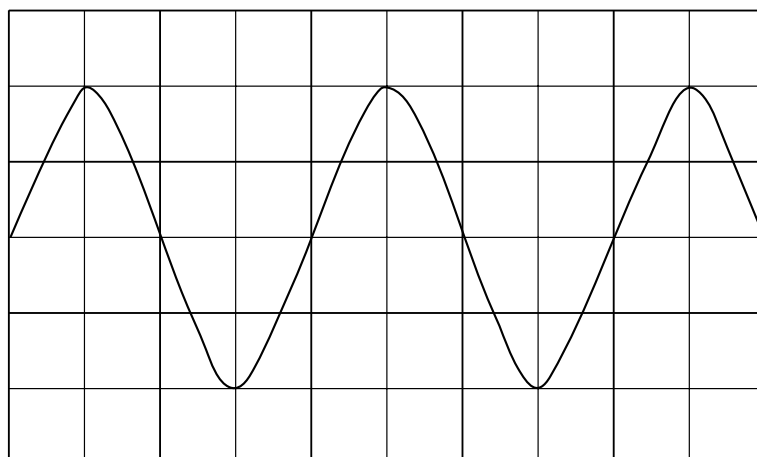

Fig. 8.1
(b) A sound wave is represented by Fig. 8.1.
- (i) On Fig. 8.1, show clearly the wavelength of the wave. [1]
- (ii) On Fig. 8.1, draw a second wave which has half the amplitude of the original wave, but the same frequency. [2]